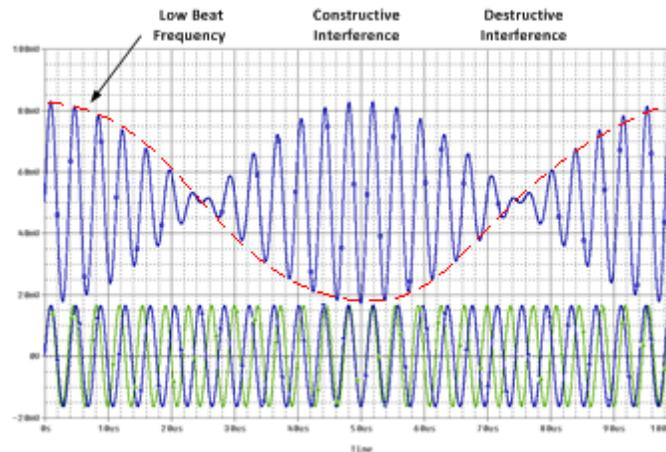

Figure 3. Frequency Synchronization
- Frequency synchronization: Frequency synchronization refers to the voltage regulator's internal oscillator (clock) synchronizing to an external clock and switching frequency to match that of the external clock's switching frequency. This is especially beneficial when more than one voltage regulator is present on the same board. Their fundamental switching frequencies can generate harmonics, which can then generate beat frequencies that can make their way to the output in the form of noise if the audio rejection and filtering are poor as shown in Fig.3. Frequency synchronization is great for radio frequency (RF) or data-acquisition applications like base stations and medical imaging.